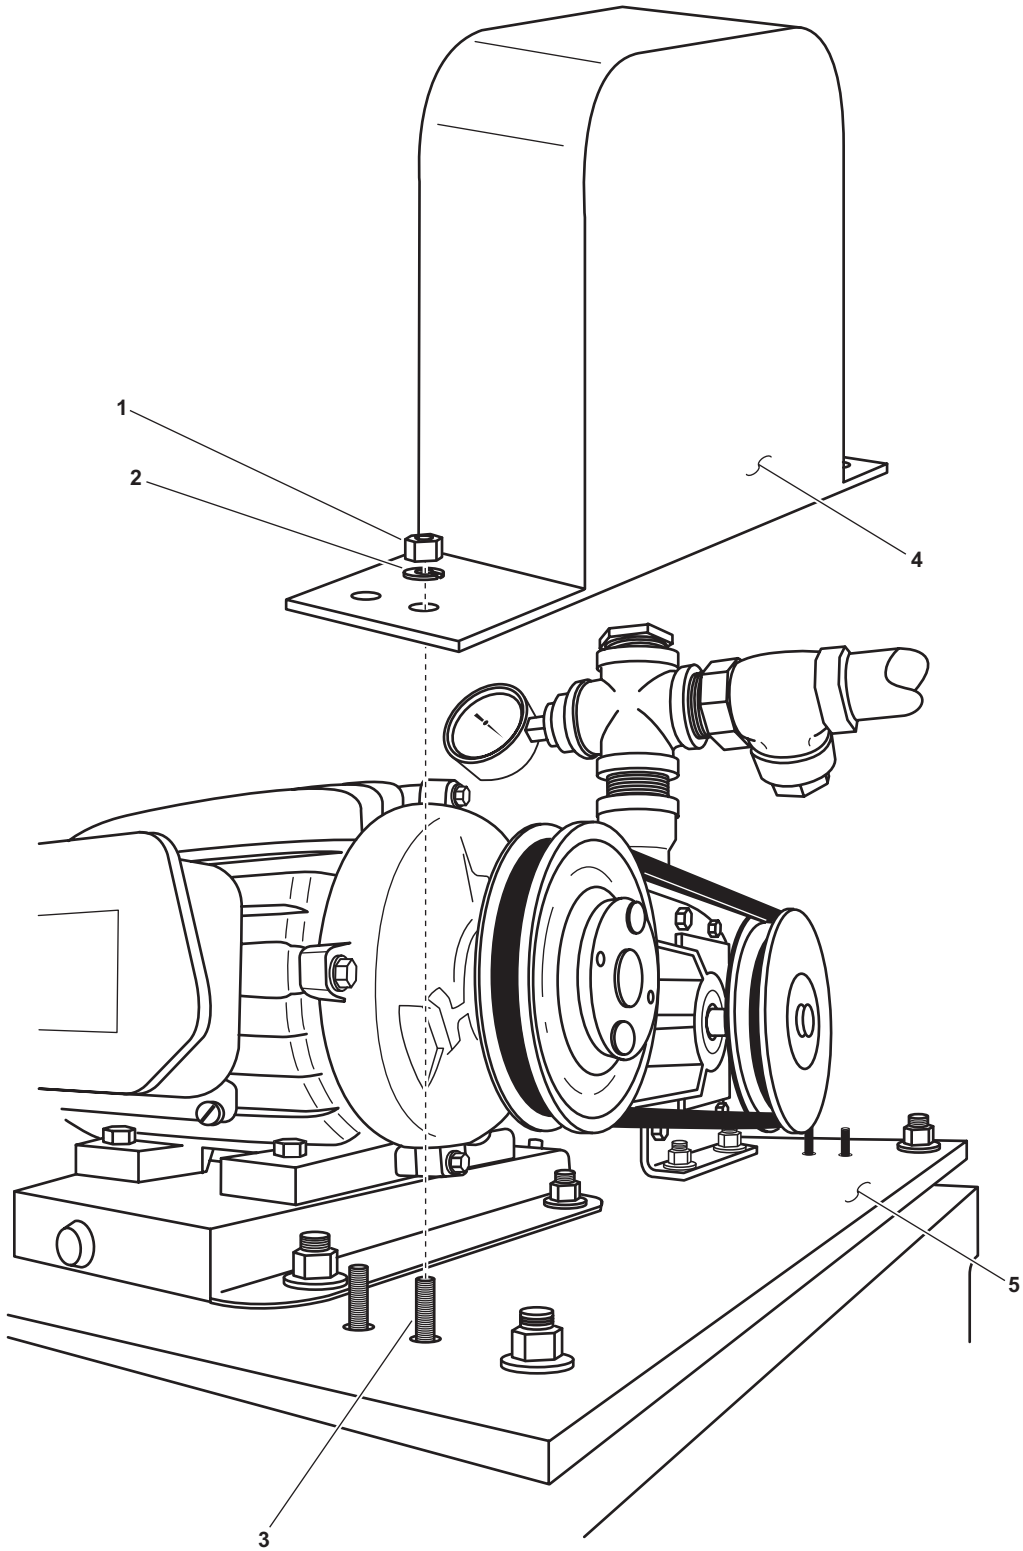

Figure 1. Belt Guard Removal
1. Remove the four nuts (figure 1, item 1) and four lockwashers (figure 1, item 2) from the studs (figure 1, item 3) that secure the belt guard (figure 1, item 4). Discard the lockwashers.
2. Remove the belt guard (figure 1, item 4) from its base (figure 1, item 5).
2. Position the belt guard (figure 1, item 4) over the studs (figure 1, item 3) on its base (figure 1, item 5) and secure it with the four nuts (figure 1, item 1) and four new lockwashers (figure 1, item 2).